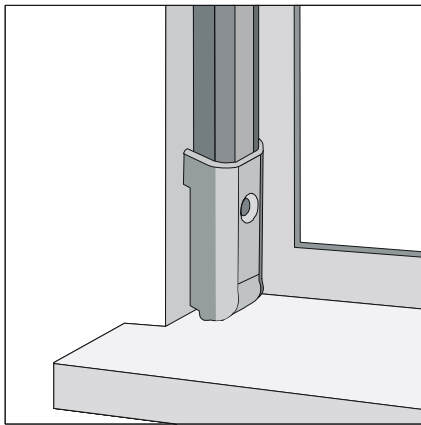

fig. 3
- At a height that should be as close as possible to the ground or to the window base (fig. 3)